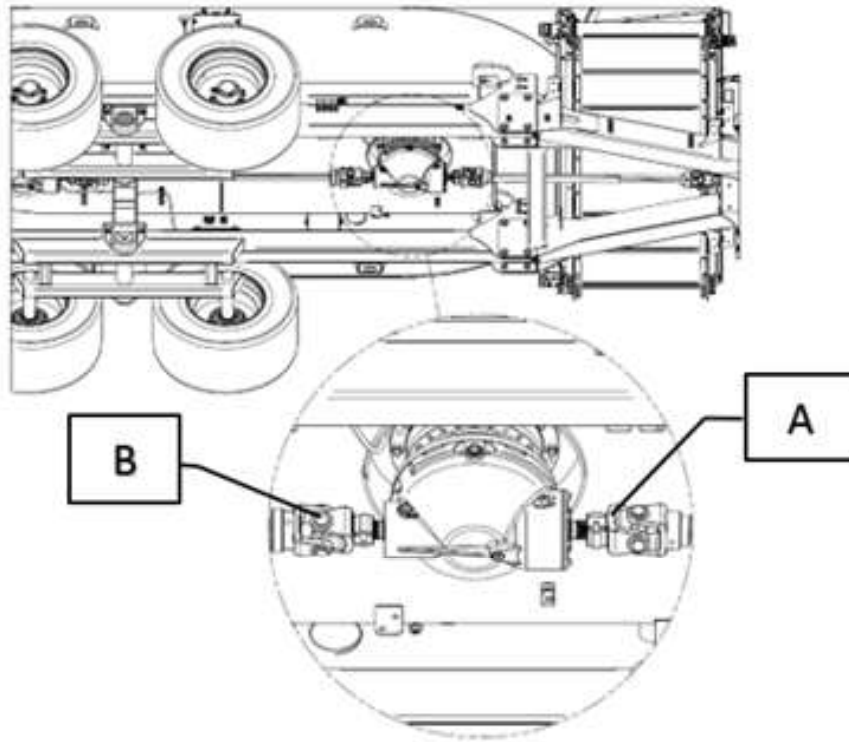

Figure 37 — Location of the Shear Bolt Yokes on a Twin-Auger SMARTMIX
Twin-auger SMARTMIX mixers have two yokes. The first yoke is located on the secondary drive shaft and protects the two planetary gearboxes for the mixing augers (Figure 37, A). The second yoke is located after the first gearbox for the rear auger (Figure 37, B).
If the shear bolt for the front auger breaks (Figure 37, A):
2. Remove the piece of shear bolt from the yoke (Figure 37, A).
If the shear bolt for the rear auger breaks (Figure 37, B):
2. Remove the piece of shear bolt from the yoke (Figure 37, B).